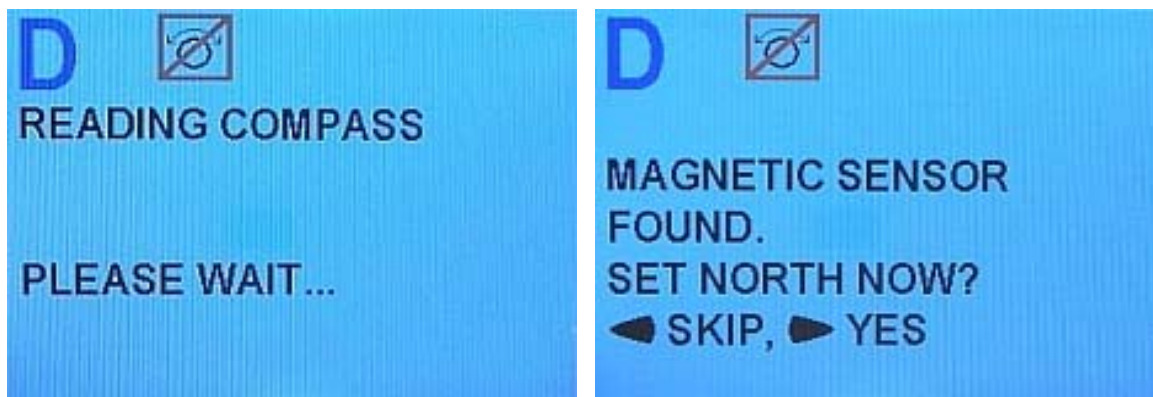

Figure 68 – Compass Verification (Mag Sensor shown)
- 5) After the Admiral P3 has auto-detected the compass, it will ask you if you want to SET NORTH NOW? (see Figure 68). Press the **STARBOARD ARROW** button.